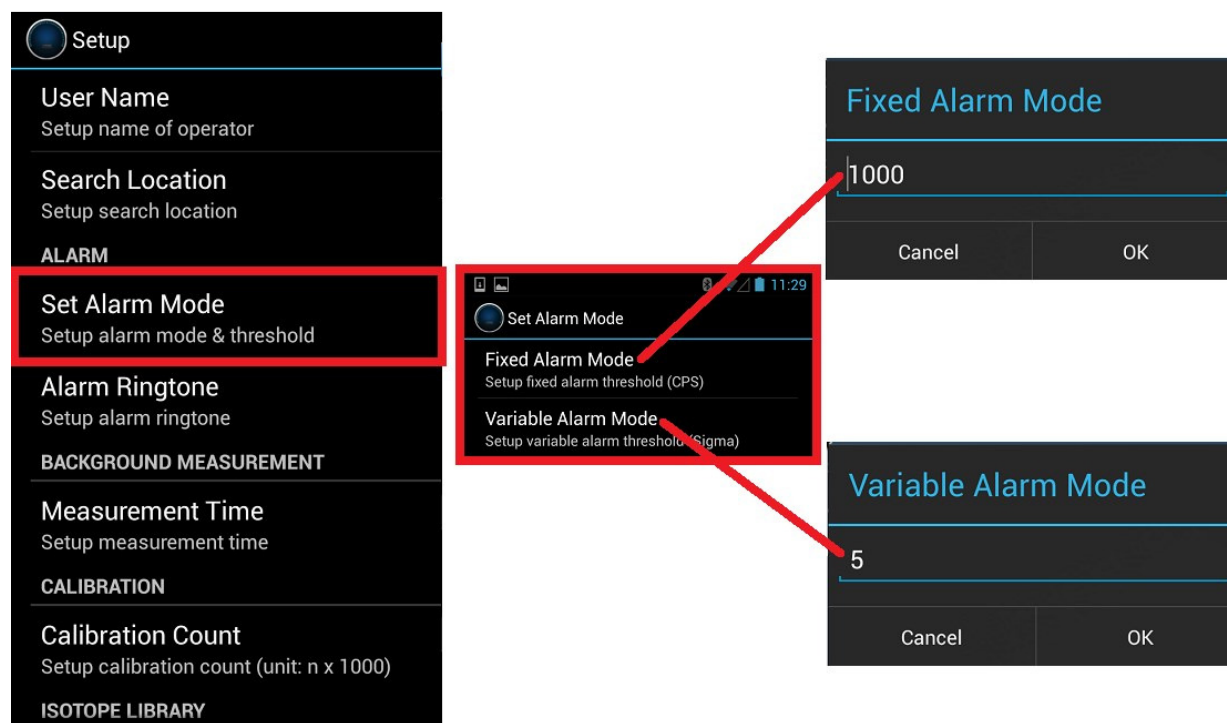

Figure 4.10. Alarm threshold configuration example
1. From the Setup menu, select **Set Alarm Mode** (Figure 4.10). If selecting **Fixed Alarm Mode**, go to step 2. If selecting **Variable Alarm Mode**, skip to step 3.